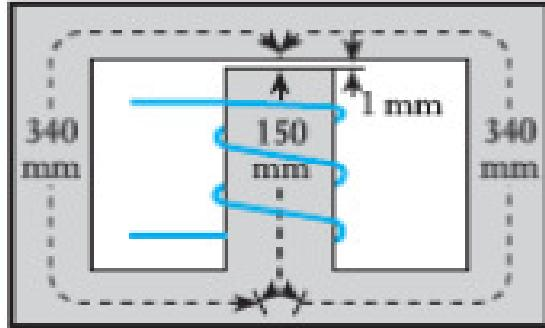

Figure:2
Q.3 A magnetic circuit made of silicon steel is arranged as in Fig. 2. The centre limb has a cross-sectional area of 800 mm2 and each of the side limbs has a cross-sectional area of 500 mm2. Calculate the m.m.f. required to produce a flux of